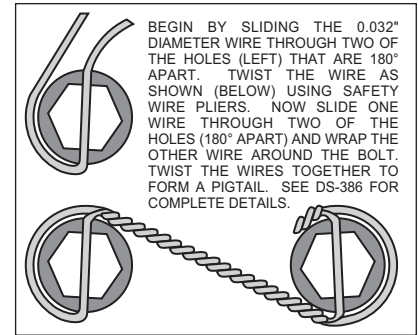

Figure 3. Safety Wire Diagram
- Apply red *Loctite*® 271 to bolt threads (3) before assembly of the caliper mounting bracket (1). Mount bracket (1) to dust face plate of spindle using lock washers (2) and bolts (3). Torque bolts (3) to 22 ft-lb. **NOTE:** Be sure the heads of the caliper bracket (1) insert nuts are facing outward toward the wheel.
- Install wheel studs (4) into the hub (5). Torque to 77 ft-lb. **NOTE:** There are two five lug patterns in the hub (5 x 4.50 and 5 x 4.75). Make sure of the correct hole pattern for the correct wheel application before installing studs into hub.
- Pack the large inner bearing cone (6) with high temperature disc brake bearing grease (available from your local auto parts store) and install into the backside of the hub (5).
- Install the grease seal (7) by pressing into the backside of the hub (5).
- Attach rotor adapter plate (8) to rotor (9) using bolts (10). Torque bolts (10) to 180 in-lb. Safety wire bolts (10) using standard 0.032 inch diameter stainless steel safety wire as shown in Figure 3. Please refer to Wilwood's data sheet DS-386 (available at www.wilwood.org/ds386.pdf) for complete safety wire installation instructions. **NOTE:** The large inside diameter side of the rotor (9) faces toward the rotor adapter plate (8) with the dished side of the rotor adapter plate (8) facing away from the rotor (9).